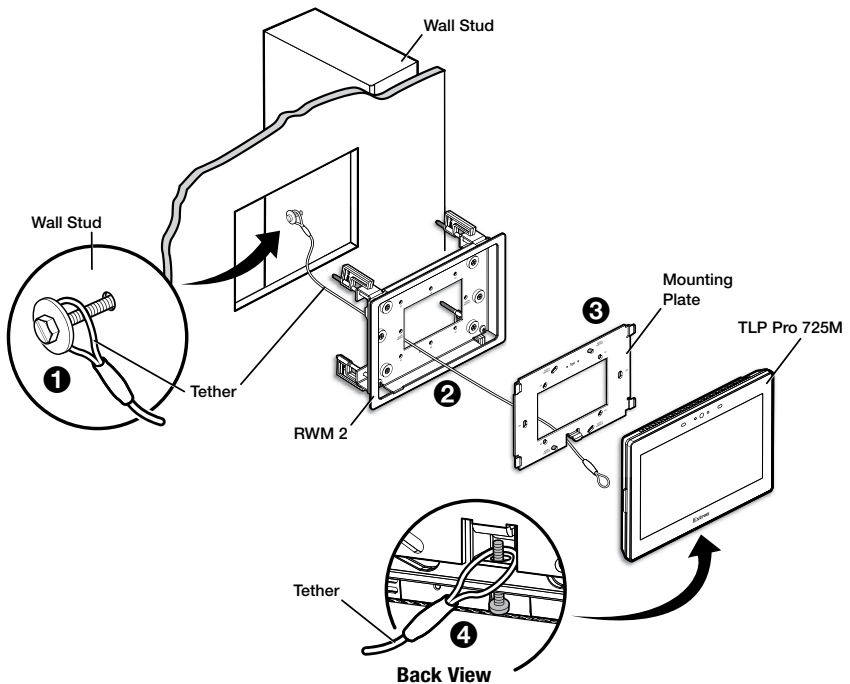

Figure 1. Securing a Touchpanel with the STK 1
- Place the loop at the other end of the tether over the provided set screw at the bottom of the touchpanel (see figure 1, **4**). Do not pass the tether through the mounting plate.